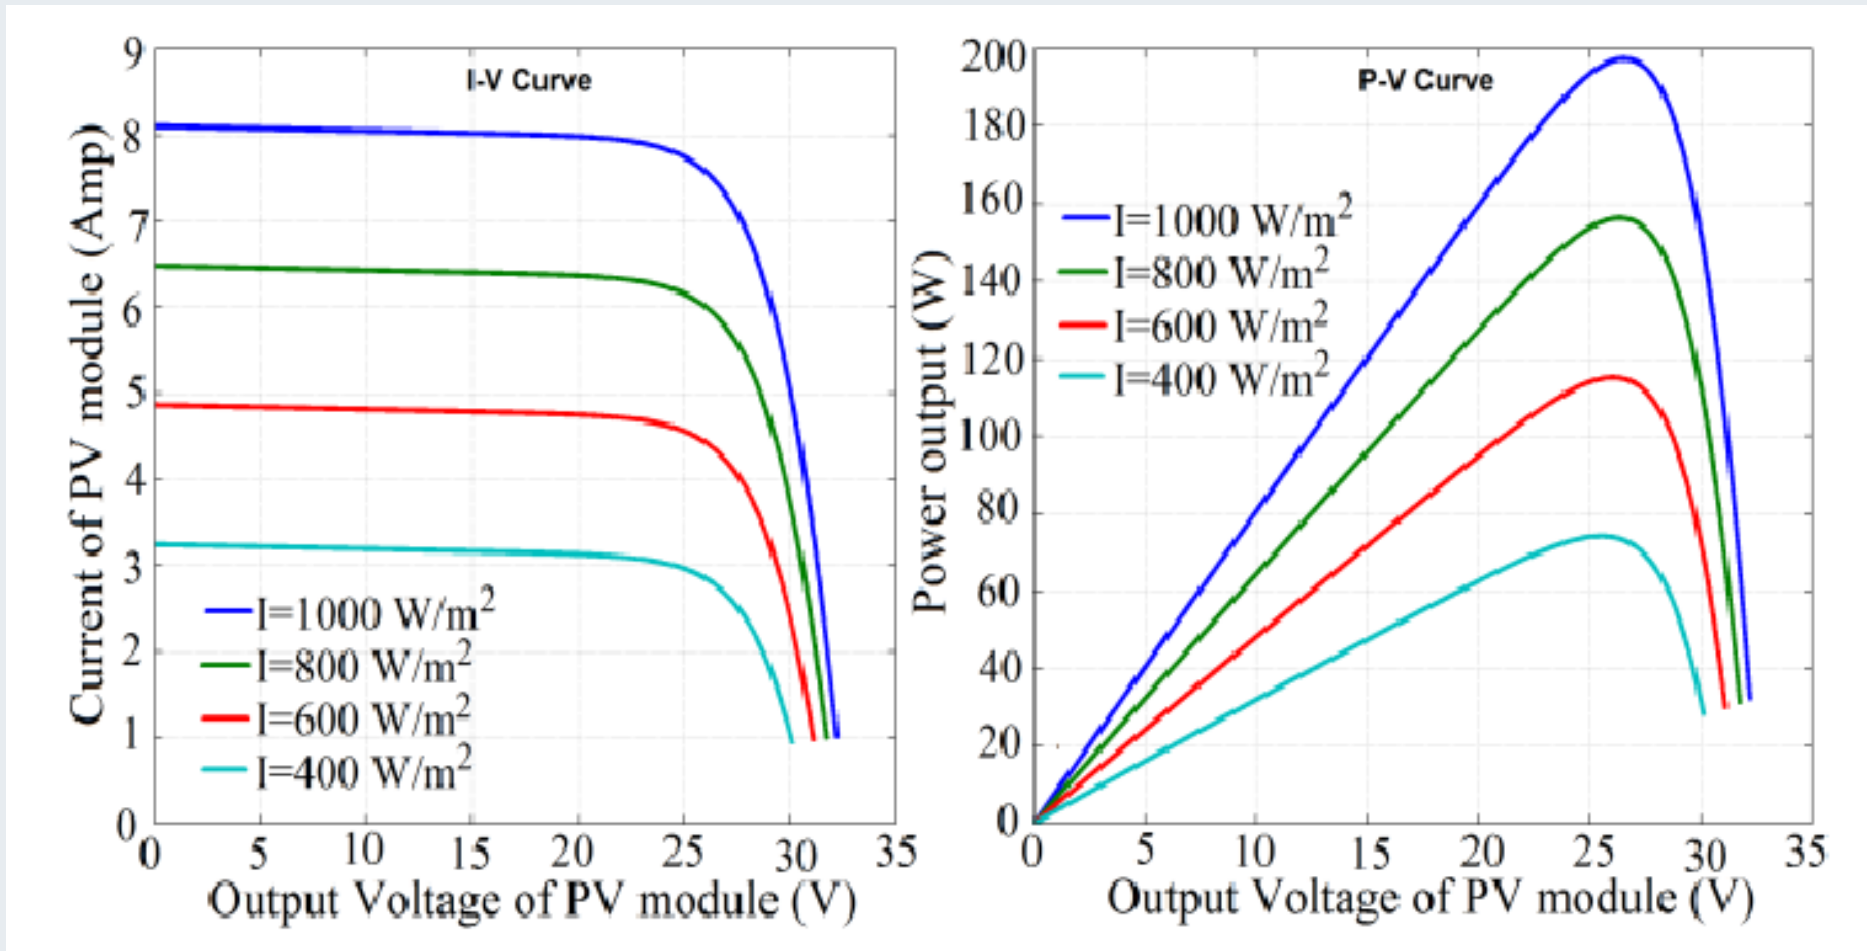

Figure 3. I-V-and-P-V-curve-of-200-W-at-different-Irradiance-and-constant-temperature-of -25°C STC[4]. url: <https://www.researchgate.net/publication/304039382>
- Fig.3 shows the effect of change in solar radiation in PV modules performances.